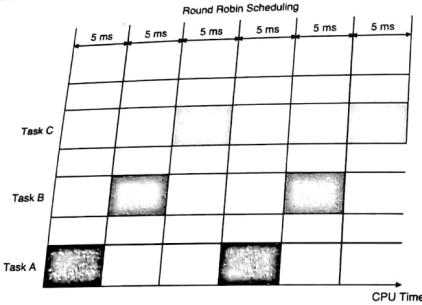

Fig. 13.3.3 : Round robin scheduling
- The CPU time utilization for three tasks according to round robin is shown in Fig. 13.3.3. In this example, it is assumed that the time slots are of 5 milliseconds (5ms) each.